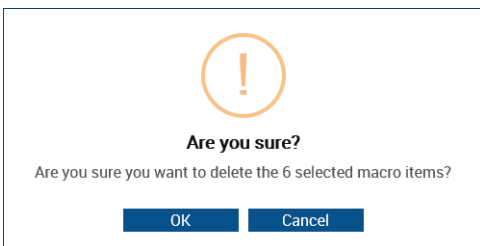

FIG. 79 System Prompt - Delete Macro Items
- c. The system will prompt you to verify this action (FIG. 79) - click **OK** to proceed.